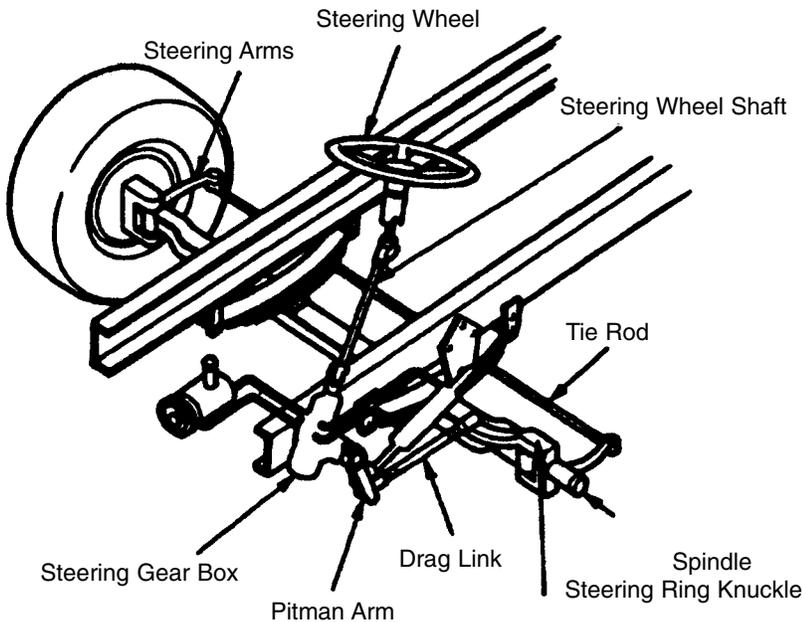

Figure 2-1
- **Steering System Defects (See Figure 2-1)**